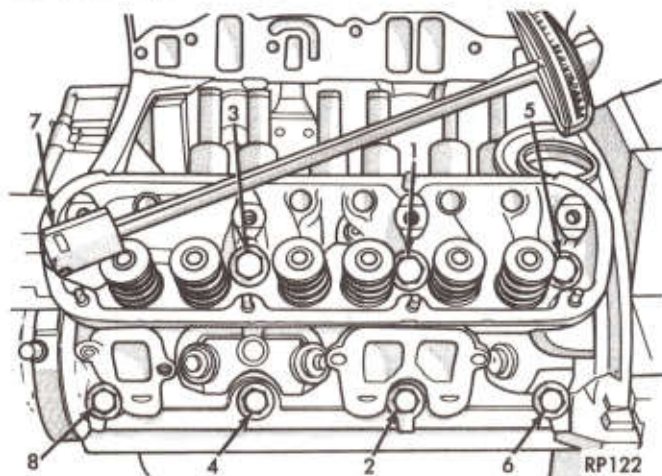

Fig. 8—Cylinder Head Bolt Tightening Sequence
- (3) Install new gaskets on cylinder block.
- (4) Remove cylinder heads from holding fixtures and place heads on engine.
- (5) On 6 cylinder engines bolt thread sealer is not required. Starting at top center, tighten all cylinder head bolts to 50 ft. lbs. (68 N-m) in sequence shown in Figure 8. Repeat procedure, retighten all cylinder head bolts to 105 ft. lbs. (143 N-m).
- (6) Inspect push rods and replace worn or bent rods.
- (7) Install push rods, rocker arm and shaft assemblies with the "NOTCH" on the end of rocker-shaft pointing to center line of engine and toward front of